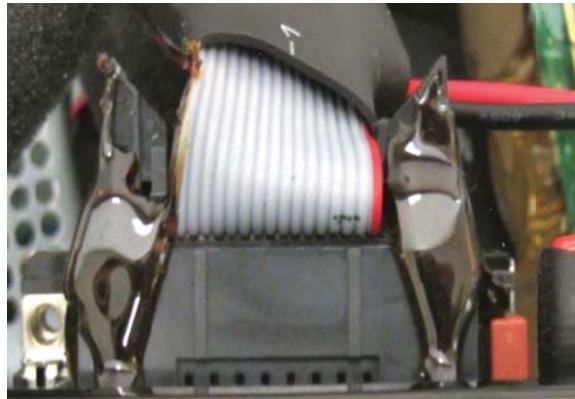

Figure 5.
**2.8** Inspect the J602 connector on the IO PCB to ensure it is fully seated and the hot melt is on the locking tab. Apply hot melt, if needed, to keep the locking tabs locked. See figure 5.